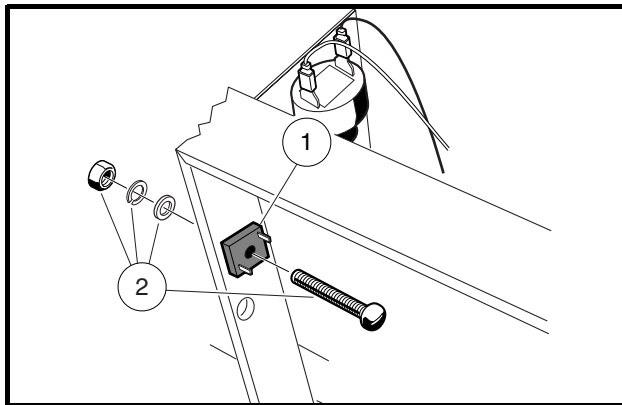

Figure 12-44 Headlight Diode
4. Disconnect wires from the headlight diode (1). Do not allow wires to touch (**Figure 12-44, Page 12-38**).
5. Remove the mounting hardware (2) from the headlight diode and remove it from the vehicle.
1. Mount the headlight diode to the frame using the mounting hardware and tighten to 25 in-lb (2.8 N·m) (**Figure 12-44, Page 12-38**).